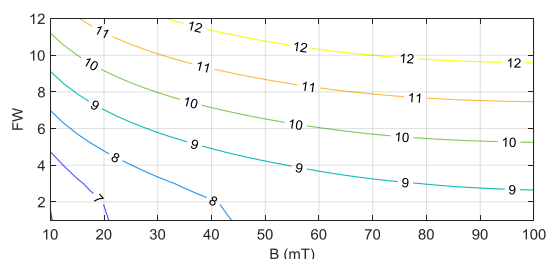

Figure 31: MA780 Resolution
The filter window (FW) determines the effective resolution (defined as the $\pm 3\sigma$ noise interval). Figure 31 shows the effective resolution for different FWs and the magnetic field (B).